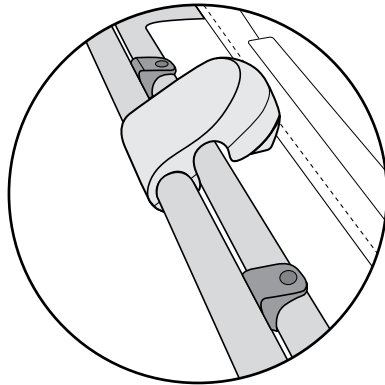

Figure 5
4. Align the front frame with the middle frame so that the front frame tube sits in the black plastic saddles (Figure 5).